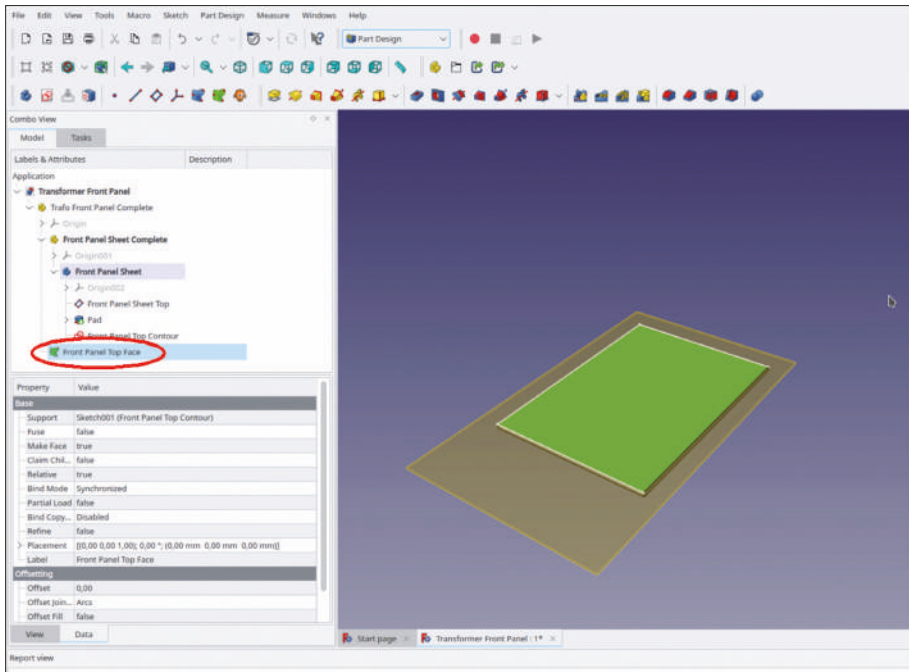

Figure 9-12
14. In the tree view, mark the new sketch and click the green 'Create a sub object(s) shape binder' tool button. Rename the new SubShapeBinder to 'Front Panel Top Face'. Drag and drop it into the Std-Part-Container 'Trafo Front Panel Complete' (Figure 9-12).